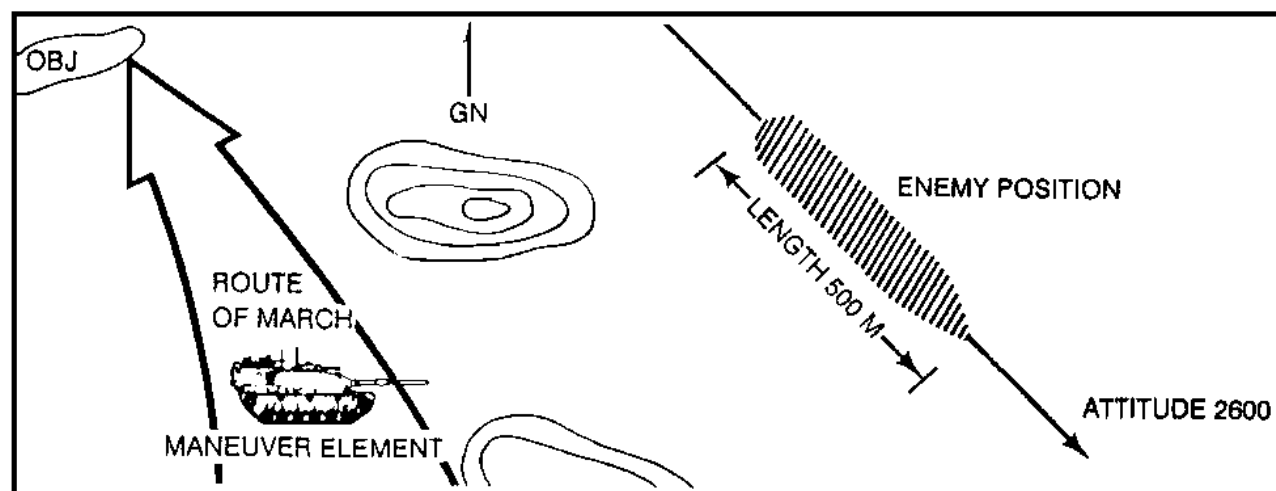

Figure 5. Length and attitude.
b. Length and attitude of the quick smoke screen. Quick smoke must be placed relative to the target to be screened. Hence, we describe a desired smoke screen in terms of length and attitude. The length is the length in meters to be screened. Length may depend on the enemy size or the friendly unit's vulnerability to observation. Attitude is described as a clockwise angle, in mils, measured from grid north to a line passing through the long axis of the enemy position. Attitude will not exceed 3,200 mils. See Figure 5. Length of smoke may be longer than target length based on the estimates of the commander.